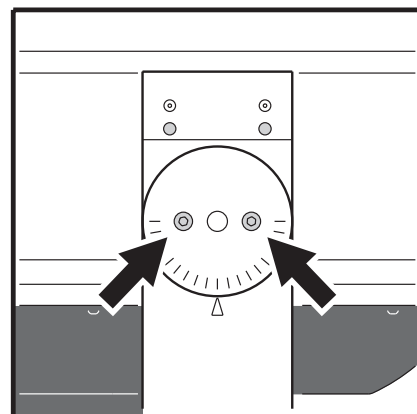

Figure 16: Tilt lock screws
1. Support the luminaire to ensure that it cannot tilt unexpectedly under its own weight. See Figure 16. Loosen the tilt lock screws on each side of the mounting yoke.